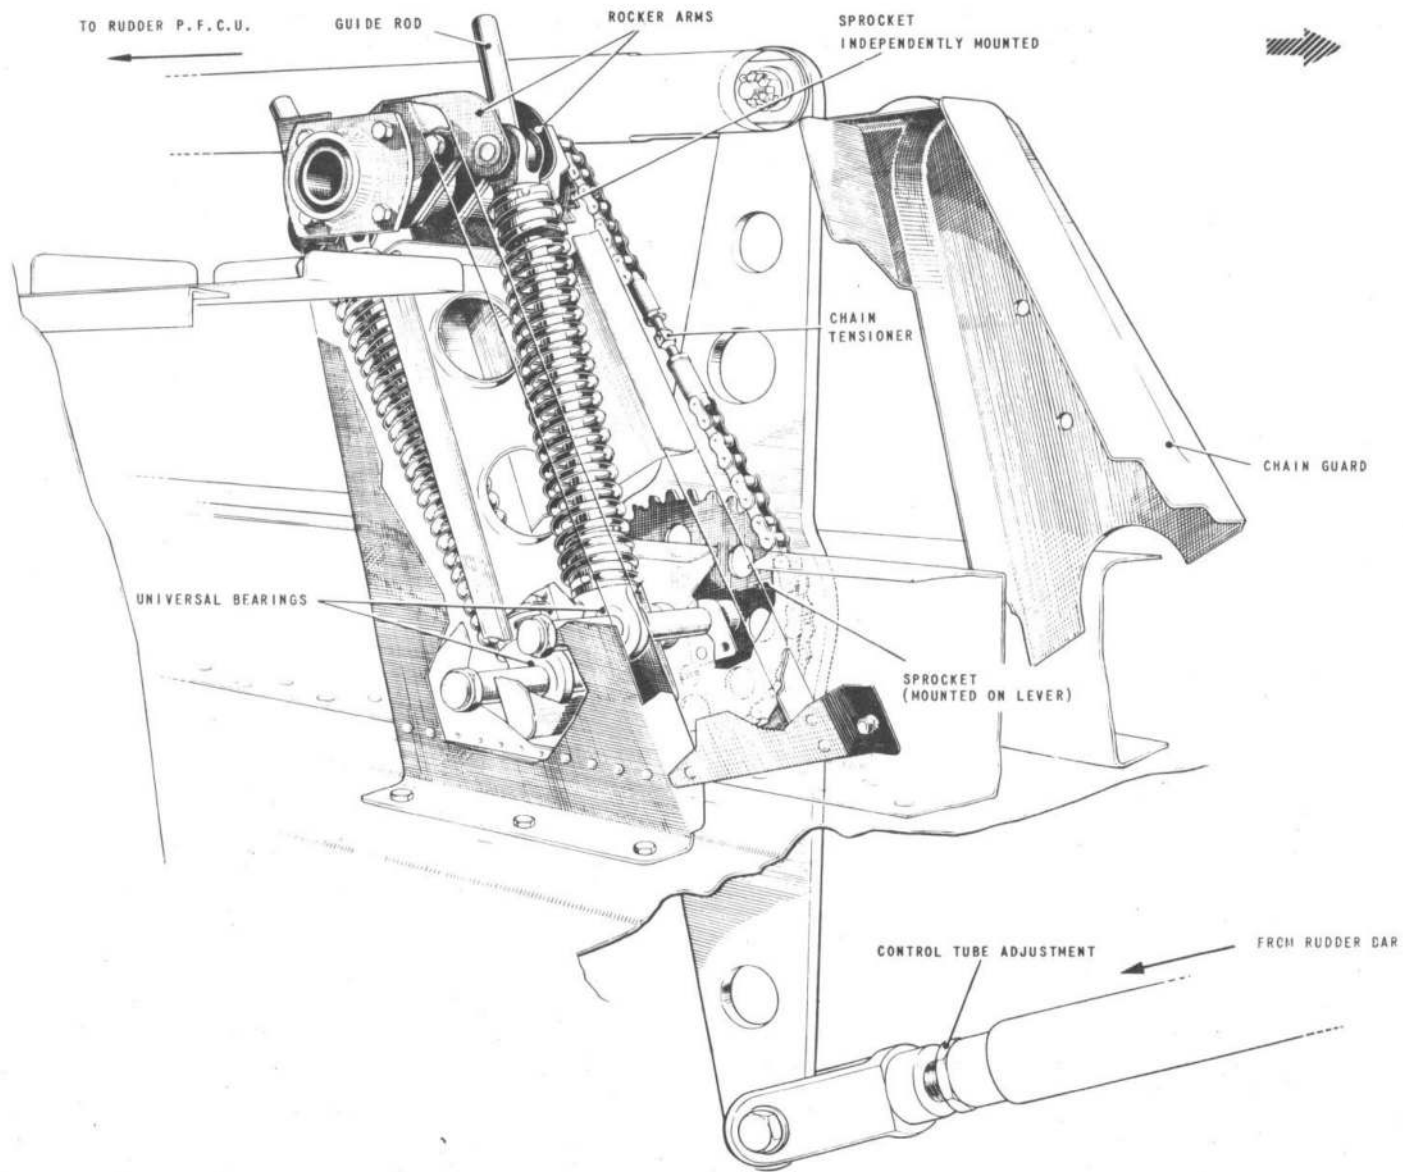

FIG. 2. NON-LINEAR SPRING FEEL MECHANISM
1. The rudder is moved by a p.f.c.u. which is controlled through a rod-and-lever system connected to the rudder pedals for normal rudder operation; through an electro-hydraulically operated autostabilizer for flight control system signals, and through a cockpit switch-controlled, electrically-operated, actuator for out-of-trim corrections. Inertia forces, set up in the control run due to rapid changes in forward speed, are off-set by a balance weight fitted to the port rudder pedal. A hydraulic damper, which also constitutes the upper hinge, damps any tendency toward rudder flutter. Artificial feel is provided by a spring feel unit and a combined spring-and-hydraulic feel unit (*fig. 2 and 4*), the latter being subject to pressure from the feel simulator.
#### *Non-linear spring feel (fig. 2)*